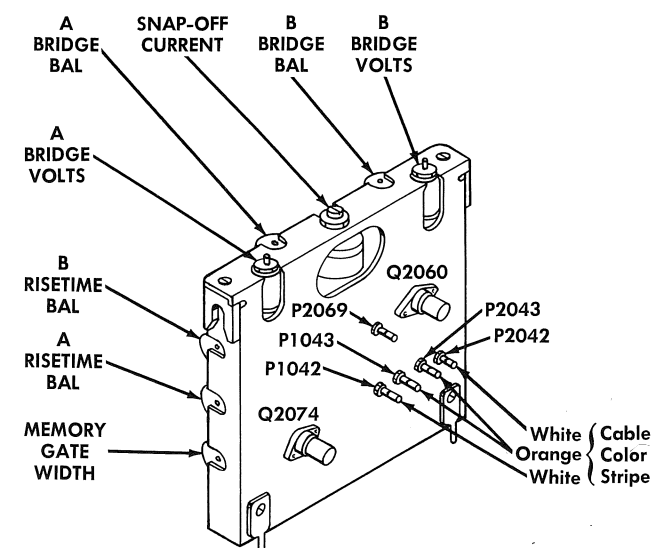

Fig. 5-4. Location of adjustments and connectors on Gate Generator subchassis.
- d. Set the MEMORY GATE WIDTH control (see Fig. 5-4) fully counterclockwise. Then slowly turn it clockwise until the vertical distance between dots of the pulse fall is maximum. (Not display amplitude; watch only dots in pulse fall.) If you continue to turn the MEMORY GATE WIDTH control, an incorrect second maximum may occur. Repeat the adjustment to be sure the MEMORY GATE WIDTH control is adjusted for the first maximum.
- If the trace is not centered when the VERT POSITION control is at midrange, adjust the A BRIDGE BALANCE control (Fig. 5-4) to center it.